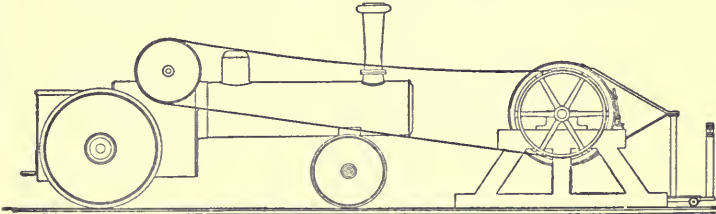

FIG. 22. ENGINE BELTED TO PRONY BRAKE.
*Brake Horse-Power.* The net horse-power delivered at the fly-wheel may be actually measured by means of a device known as the "Prony brake." Sometimes the brake is mounted on the engine shaft, but more often the engine is belted to the brake, as shown in Fig. 22. A Prony brake consists essentially of a band which may be tightened so